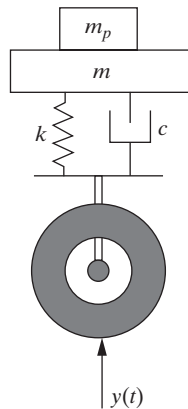

Figure P2.56 A model of a car suspension with the mass of the occupants, m_p , included.
- 2.56.** Consider Example 2.4.2 for Car 1 illustrated in Figure P2.56 if three passengers totaling 200 kg are riding in the car. Calculate the effect of the mass of the passengers on the deflection at 20, 80, 100, and 150 km/h. What is the effect of the added passenger mass on Car 2?
- 2.59.** Consider the effect of variable mass on an aircraft landing suspension system by modeling the landing gear as a moving base problem similar to that shown in Figure P2.56 for a car suspension. The mass of a regional jet is 13,236 kg empty and its maximum takeoff mass is 21,523 kg. Compare the maximum deflection for a wheel motion of magnitude 0.50 m and frequency of 35 rad/s for these two different masses. Take the damping ratio to be $\zeta = 0.1$ and the stiffness to be 4.22×10^6 N/m.